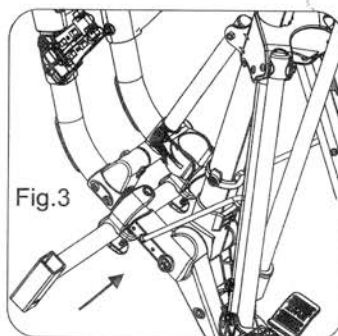

Fig.3
3. Fixed parts to click on the frame at the same time though 2pcs M5\*36 screws and 2pcs nuts as Fig.3 & 4 & 5.